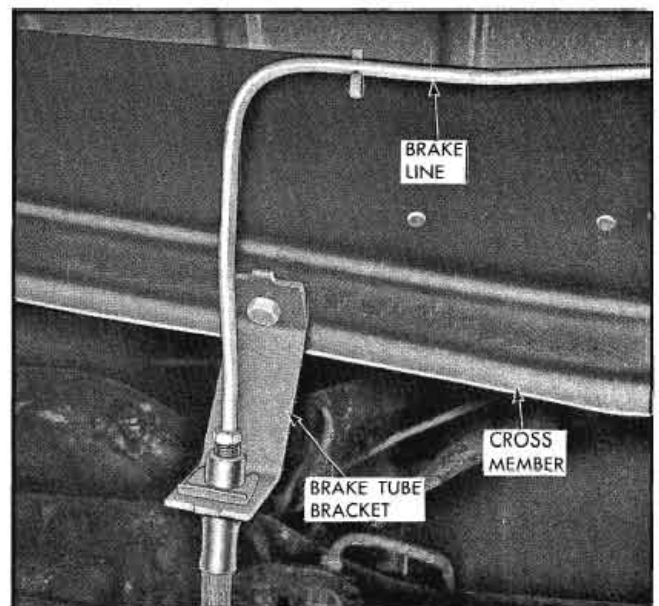

Fig. 3-29 Brake Tube Bracket and Line
4. Remove brake tube bracket and line from cross member (Fig. 3-29).